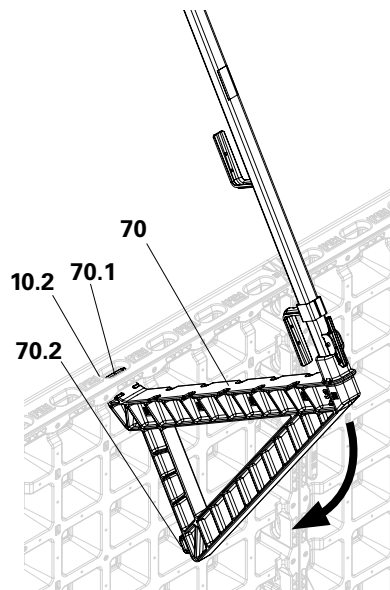

Fig. B4.02a
2. Insert the upper flange (**70.1**) of the DUO 70 scaffold bracket (**70**) into the connector pocket (**10.2**) of the DUO DP panel (**10**). (Fig. B4.02a)
3. Turn the DUO 70 scaffold bracket (**70**) downwards until the lower flange (**70.2**) engages in the frame of the DUO DP panel (**10**). (Fig. B4.02a + B4.02b)